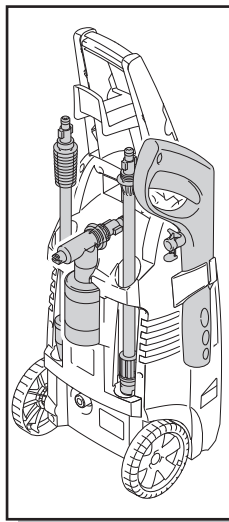

Fig.9
- Please refer to Fig. 9 for accessory storage location on the accessories holder.